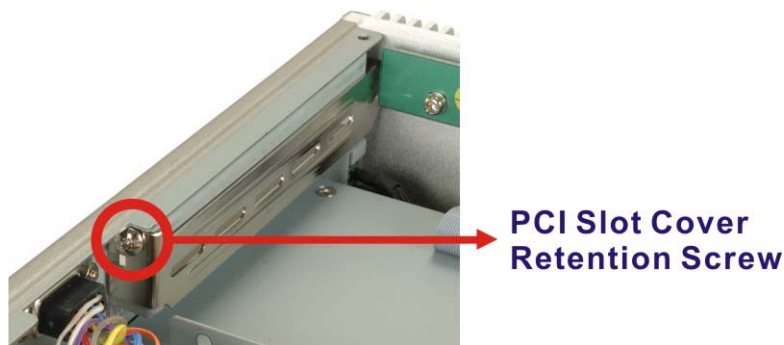

Figure 4-11: PCI Slot Cover Retention Screw
Step 2: Remove the PCI slot cover on the rear panel of the ECK-161B by removing the retention screw shown in **Figure 4-11**.